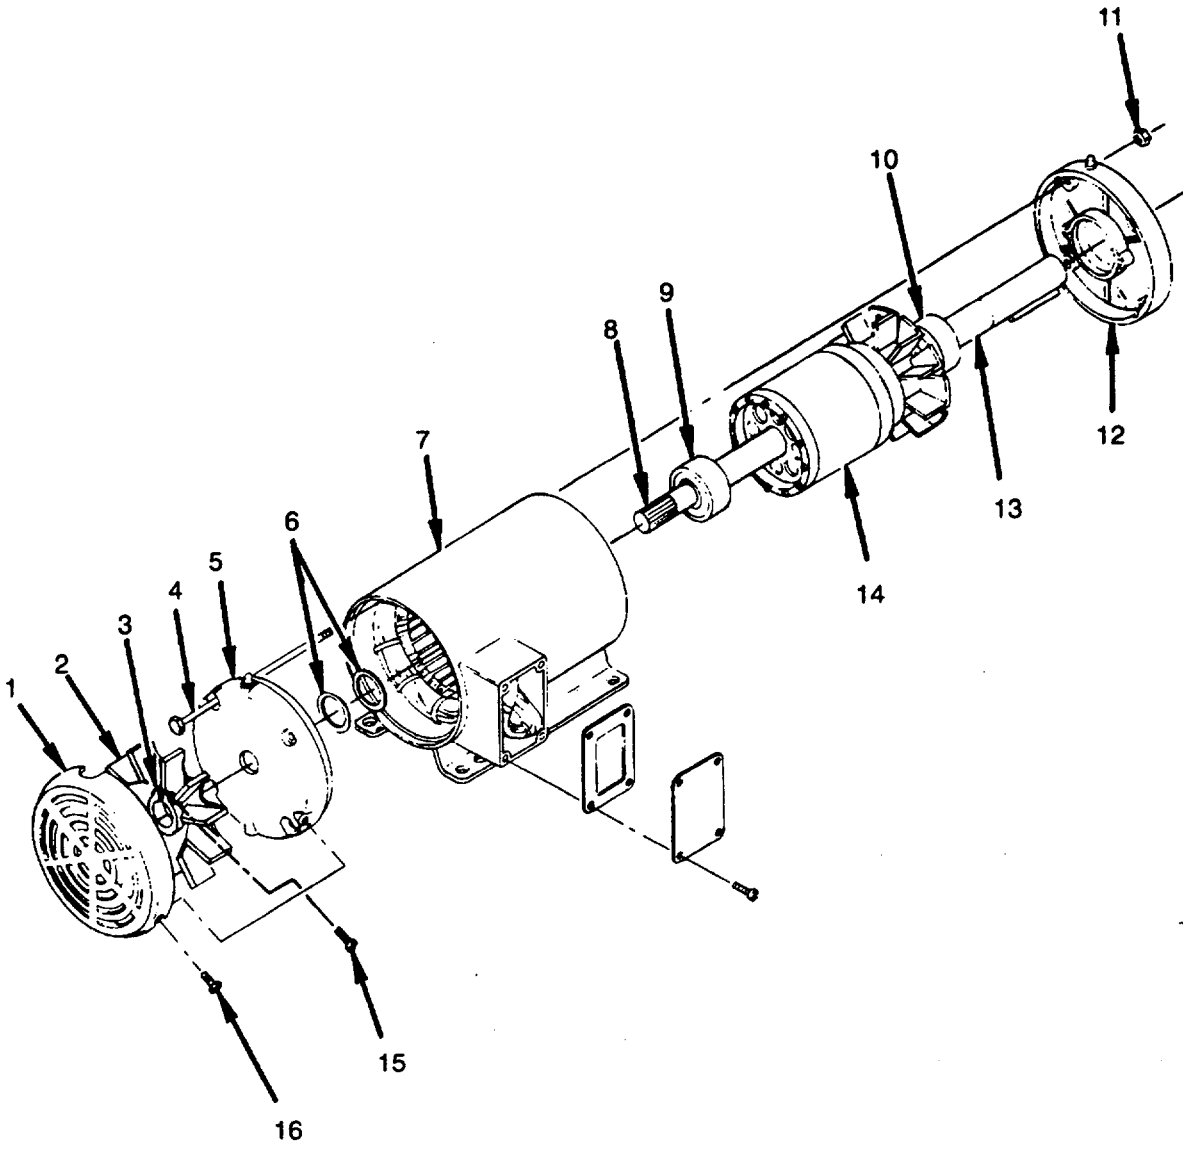

Figure 5-2. Condenser Motor (B3)
1. Remove three screws (16) (see Figure 5-2).
2. Remove fan shield (1) from end cap (5).
3. Loosen clamping screw (15) .
4. Pry open clamp (3)
5. Remove plastic fan (2) by prying off shaft.
6. Match-mark motor frame (7) and end caps (5) and (12).
7. Remove four end cap nuts (11) and through bolts (4).